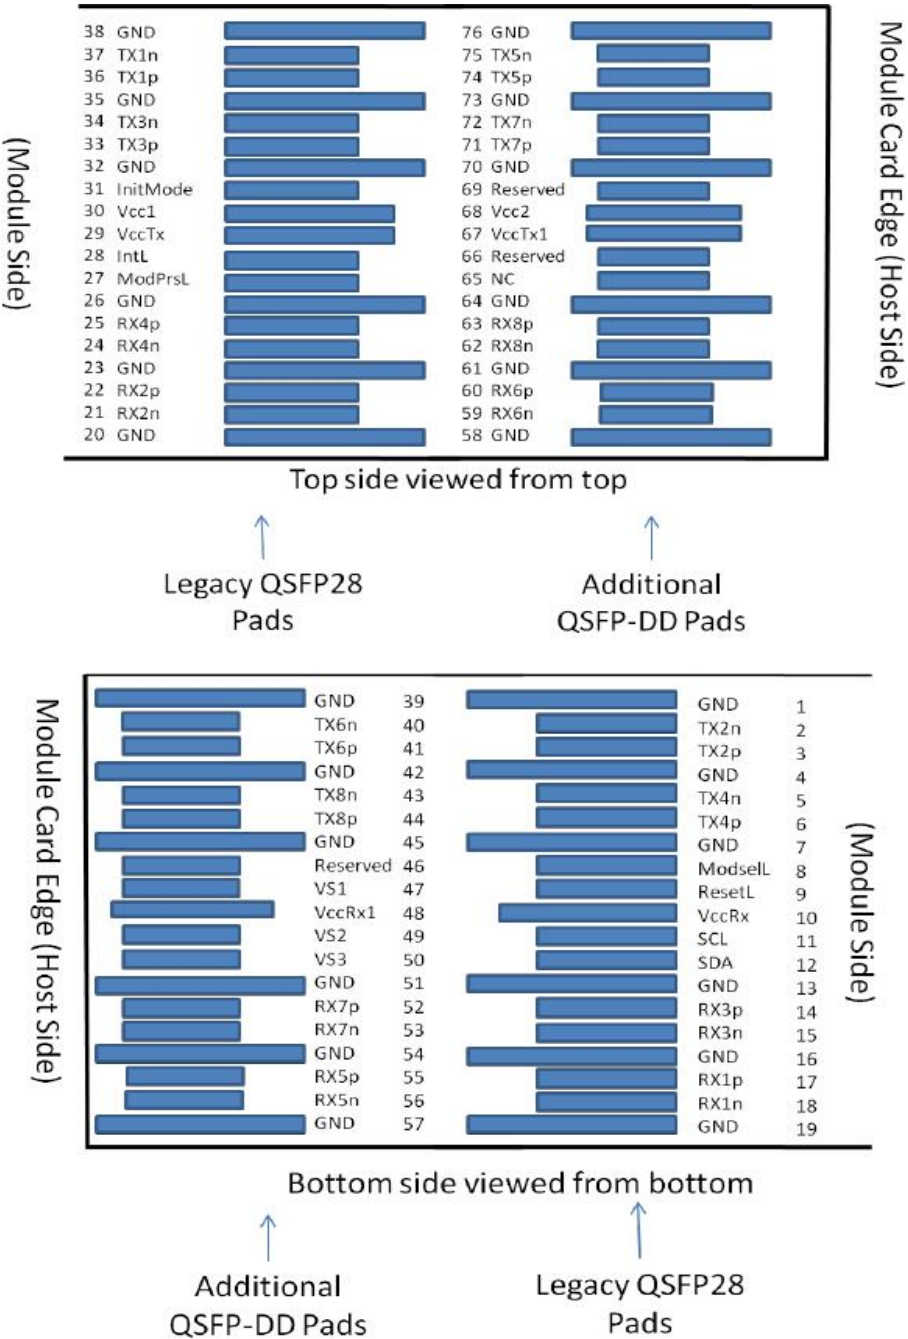

Figure 2. MSA Compliant Connector
The electrical pinout of the QSFP-DD module is shown in Figure 2 below.
- 4.Plug Sequence specifies the mating sequence of the host connector and module. The sequence is 1A, 2A, 3A, 1B, 2B, 3B. (see Figure 2 for pad locations) Contact sequence A will make, then break contact with additional QSFP-DD pads. Sequence 1A, 1B will then occur simultaneously, followed by 2A, 2B, followed by 3A, 3B.